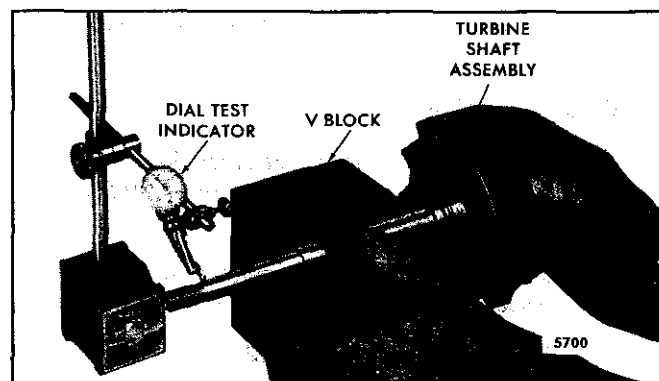

Fig. 12 - Measuring Concentricity Between Large and Small Turbine Shaft Diameters
- d. Measure the concentricity between the large and small turbine shaft diameters with a dial test indicator and vee-block (Fig. 12). Limit of eccentricity is .0006" total indicator reading. Replace if the measurement is excessive. *Do not attempt to straighten a bent shaft.*